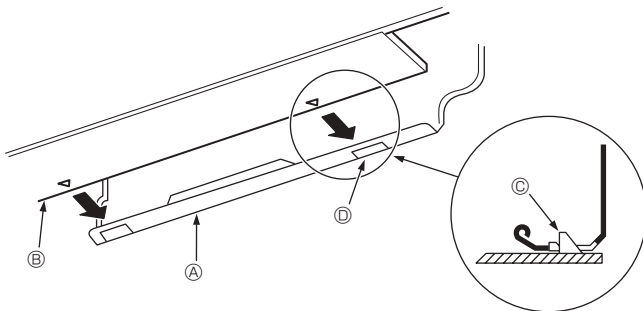

Fig. 3-12
3. While inserting the refrigerant piping and drain hose into the wall penetration hole (penetration sleeve), hang the top of the indoor unit to the mount board ①.
5. Fasten by pushing the bottom part of the indoor unit onto the mount board ①. (Fig. 3-12)
- \* Check that the knobs on the bottom of the indoor unit are securely hooked into the mount board ①.
- ① Mount board
- ② Indoor unit
- ③ Hook
- ④ Square hole